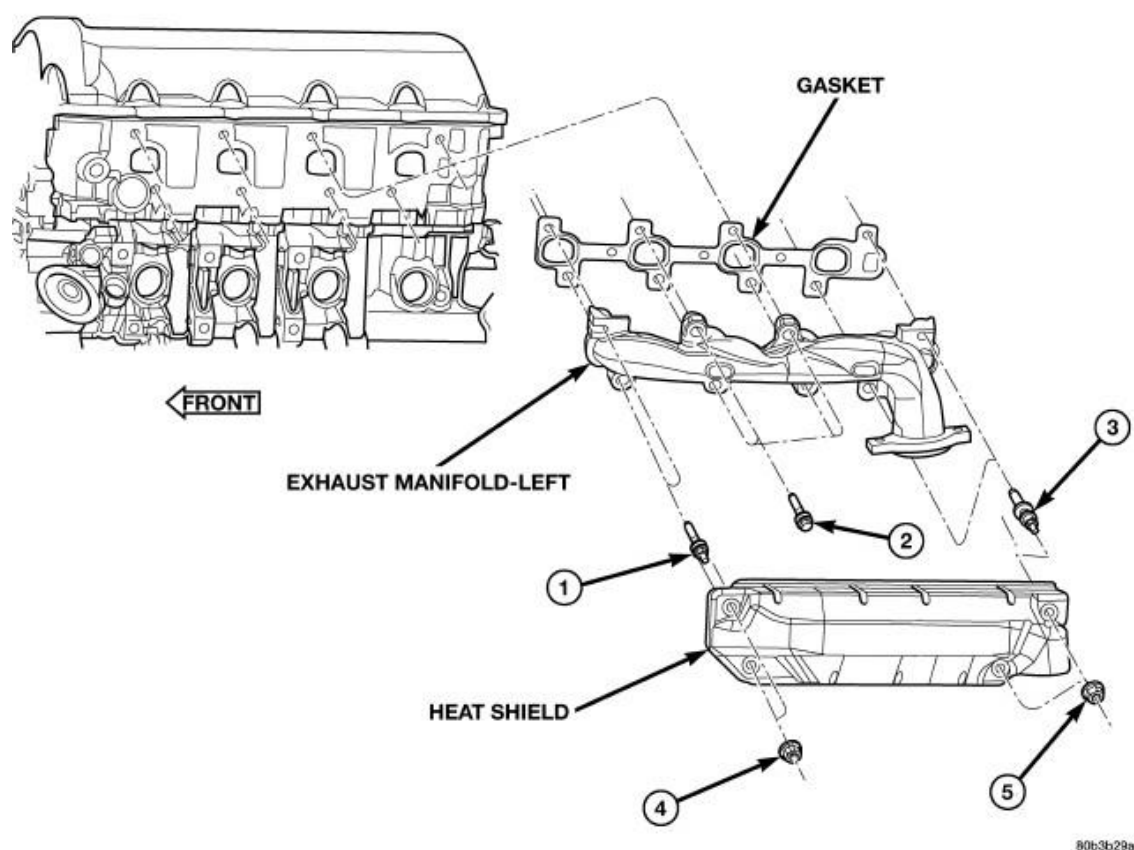

Fig. 207: Exhaust Manifold-Left
6. Remove heat shield . See **Fig. 207**.
9. Remove exhaust manifold and gasket. See **Fig. 207**. Manifold is removed from below the engine compartment.
4. Install exhaust manifold heat shield . See **Fig. 207**. Tighten fasteners to 8 N.m (72 in. lbs.), then loosen 45 degrees.